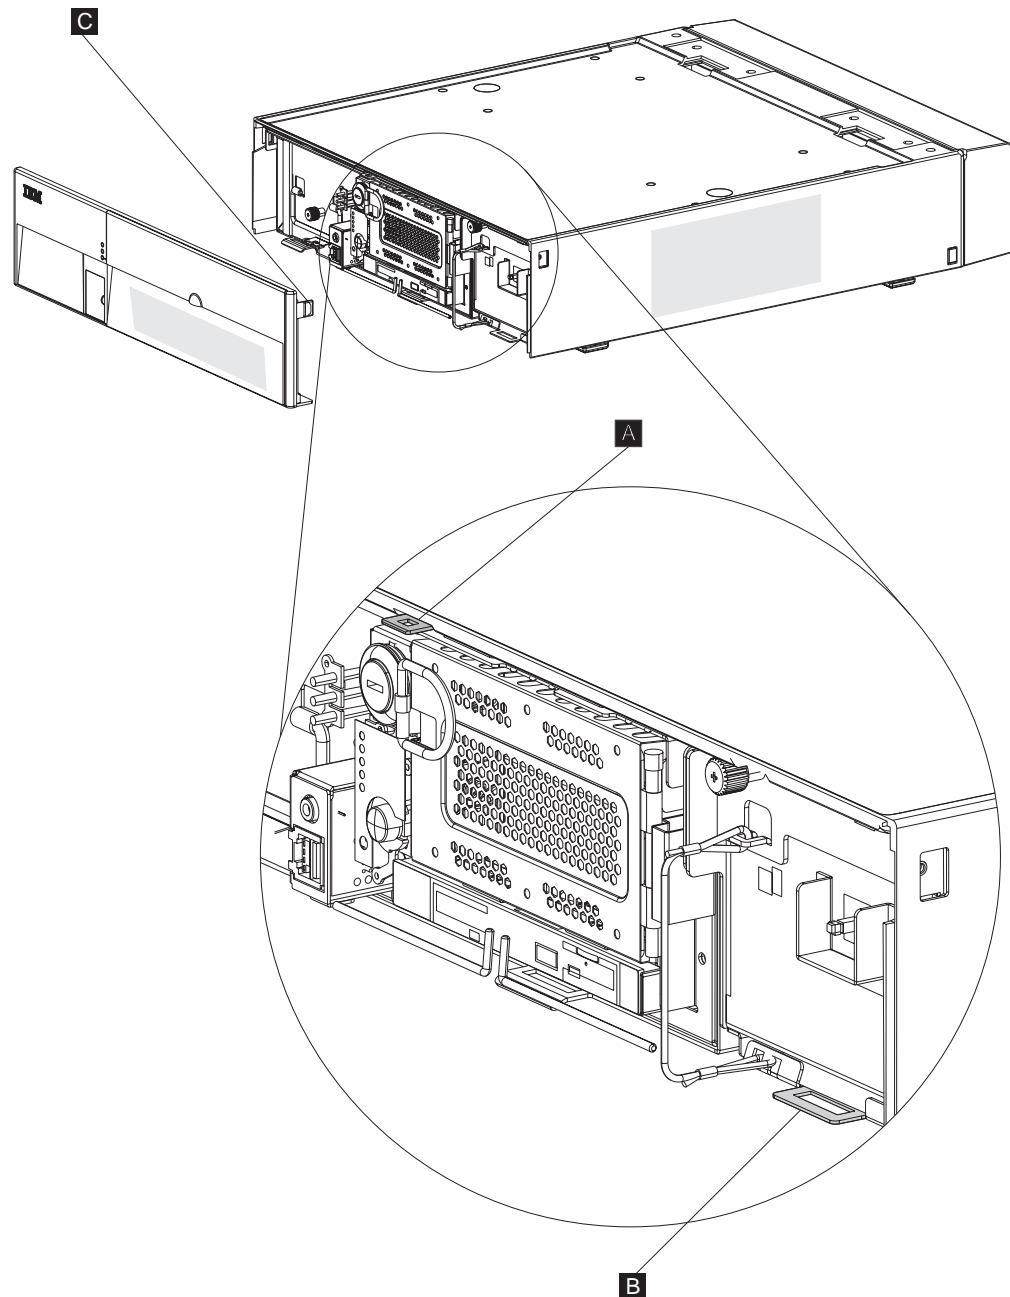

Figure 28. Placement of bezel
5. Locate the hooks on the bottom of the front bezel and align these hooks with the slots on the unit frame ( **B** in Figure 28).
6. Push inward on the side tabs ( **C** in Figure 28) and insert one end and then the other into the windows on the top cover. Push gently on the bezel to close it, ensuring that the center tab locks into place ( **A** ).
2. Push inward on the side tabs ( **C** in Figure 28 on page 34) and insert one end and then the other into the windows on the unit frame. Push gently on the bezel to close it, ensuring that the center tab locks into place ( **A** ).